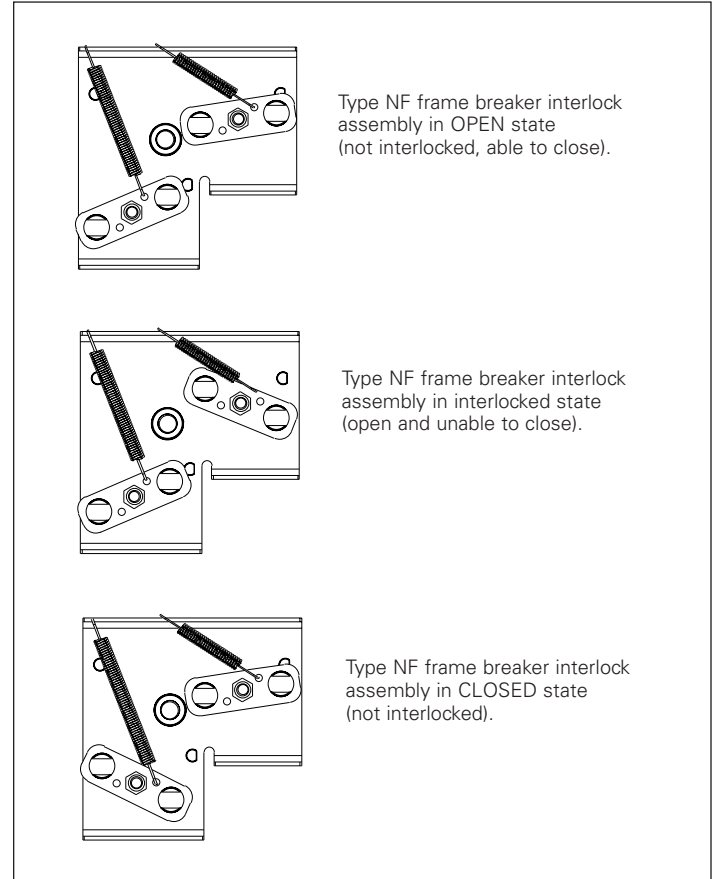

Figure 13. Position of interlock based on breaker state
Refer to **Table 1** and **Figure 1** for breaker position in the interlock configuration. Begin test sequence with all breakers OPEN. For **Breaker A**, verify that the interlock assembly is positioned as shown in **Figure 13** while in the various states required by the steps below. For **Breaker B**, use the figure included in the information leaflet for the interlock kit installed on that breaker.
- Verify that **Breaker A** is closed using the OPEN/CLOSED indication and **Figure 13**
- Inspect driven lever on **Breaker B**—it should be positioned as shown in the figure of the information leaflet (IL) for the interlock kit installed on **Breaker B**
Check 2: Open Breaker A (verify it opens using the OPEN/CLOSED indication and Figure 13)
- Verify proper operation on both breakers (use **Figure 13** to verify when **Breaker A** is interlocked)